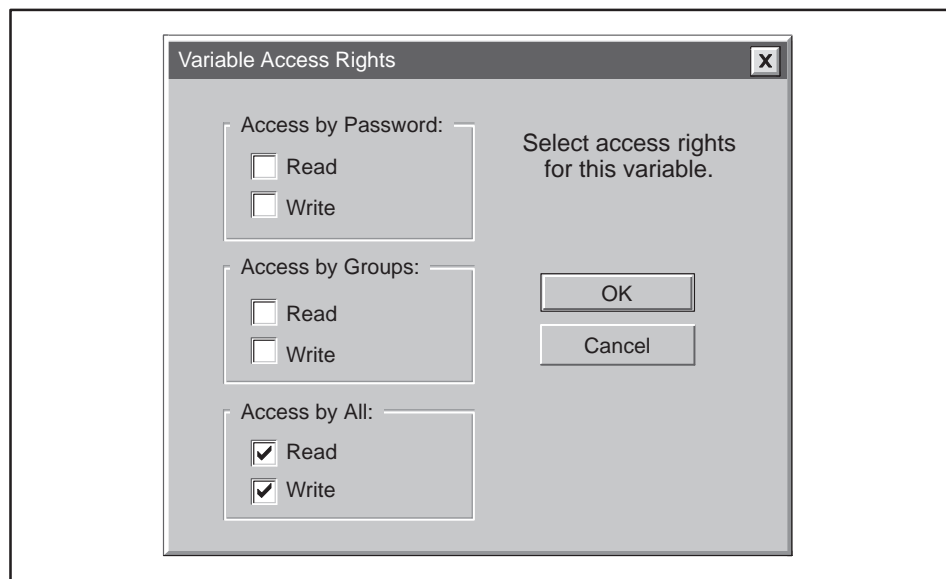

Figure 5-31 FMS Variable Access Rights Dialog Box
**Access Rights** When you click on this field, a button appears in the field. Click on the button to view the Variable Access Rights dialog box (shown in Figure 5-31). Click on the boxes to configure access privileges for this variable, and then select OK. The dialog box disappears, and the selected privileges are displayed in the Access Rights field. (Refer also to Table A-9 for more information about access rights.)